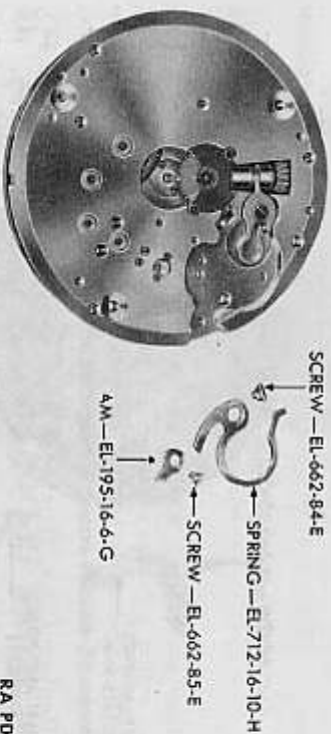

Figure 85 — Elgin Pocket Watch — Setting Subassembly Removed
n. Remove Setting Spring and Setting Spring Cam (fig. 85). Invert movement on movement block and remove setting spring cam screw and setting spring cam. Remove setting spring screw and setting spring.
f. **Replace Setting Spring and Setting Spring Cam** (fig. 85). Replace setting spring and secure in place with screw, with end of spring resting against the setting lever stud which projects through the pillar plate. Replace setting spring cam and setting spring cam screw.